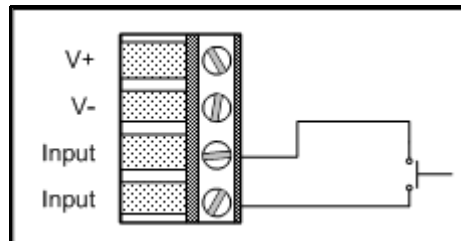

Figure 3-39: Input Wiring
- To trigger Standby Mode, connect a switch across the input terminals of the WTR 4 pin terminal block as shown in Figure 3-39 below.
You can choose to trigger the LF Field on either a rising edge (opening switch) or a falling edge (closing switch). See Figure 3-39 above for the switch wiring diagram.
- 1 Connect the input wires as shown in Figure 3-39 above.